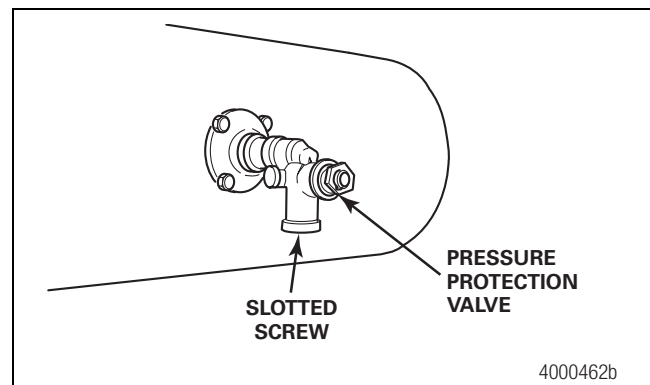

Figure 2.57
3. Hand-tighten the PPV into the installation nipple. Use a wrench to tighten the PPV approximately two additional turns to obtain an airtight seal. When correctly installed, the slotted screw in the PPV should face DOWN. Figure 2.57.